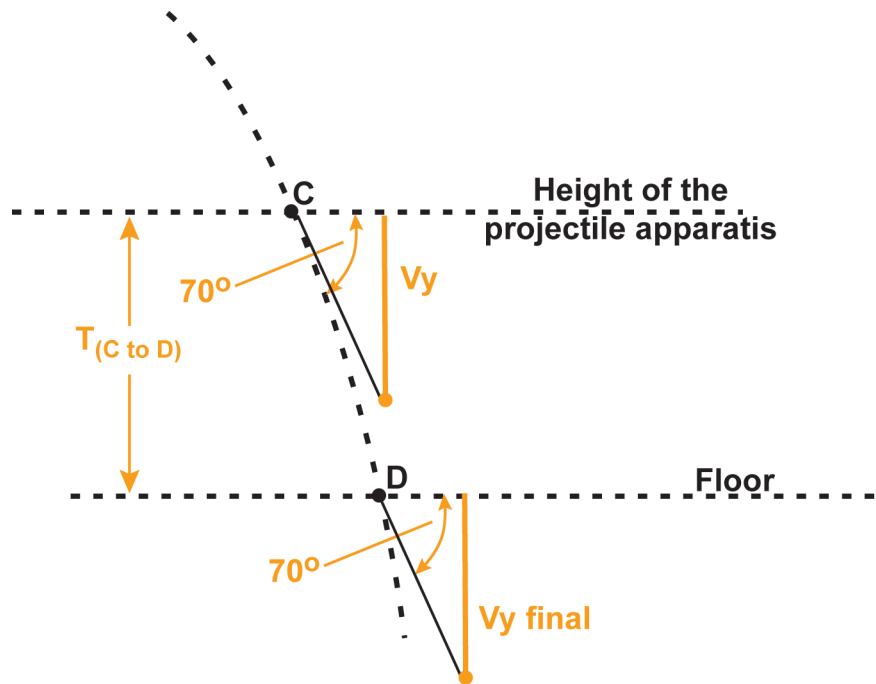

Figure 17
- ❑ 1. So far we only know the total flight time. However, we can calculate the time it took for the ball to fall to the ground from point C to point D. See Figure 17. Use the vertical components of the velocities. Enter the value of $t(\text{C to D})$ in Data Table 7 of your Student Journal.